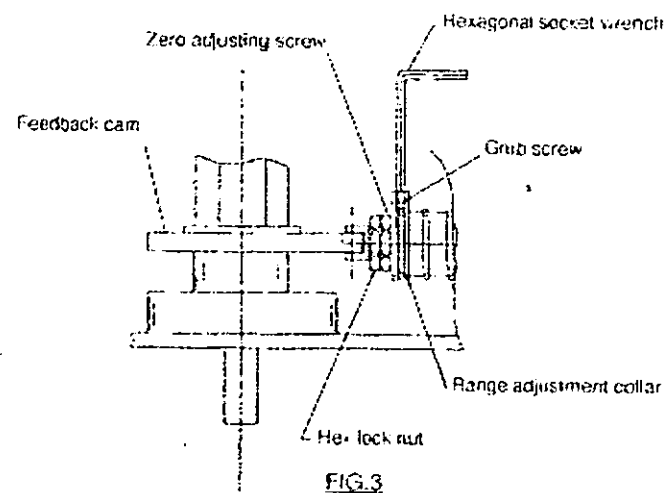

FIG.3
6. If the actuator does not reach the OPEN position at 15 psig, this is indicative of the spring rate being too high. Loosen the grub screw in the range adjustment collar, (see Fig.3), hold the collar stationary using a hexagon socket wrench, and turn the spring slightly clockwise. This will move the actuator even further away from fully OPEN and the zero adjusting screw must be used to achieve fully OPEN.